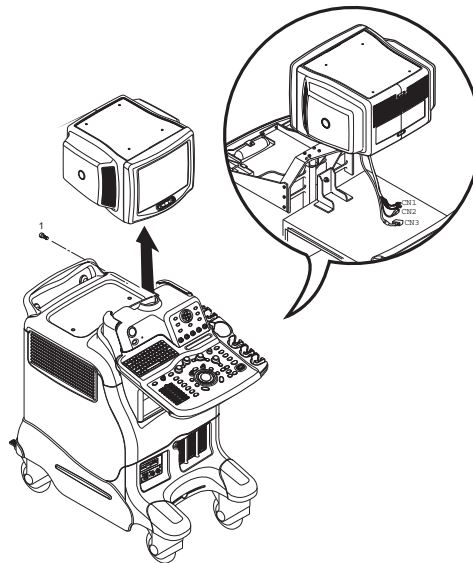

Figure 8-3 Lifting the Monitor Assy Upward
4.) Lift the Monitor Assy upward. Refer to Figure 8-3.